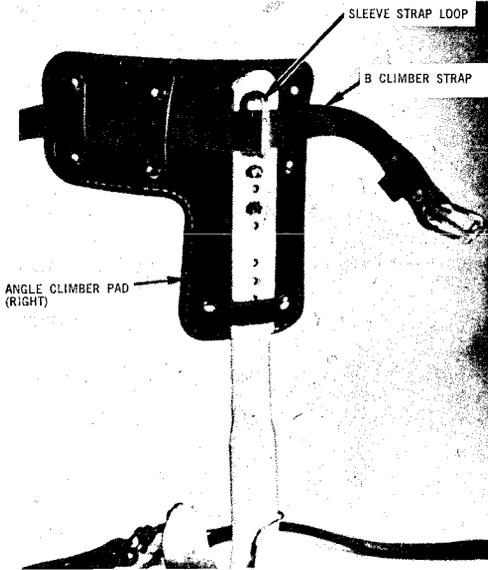
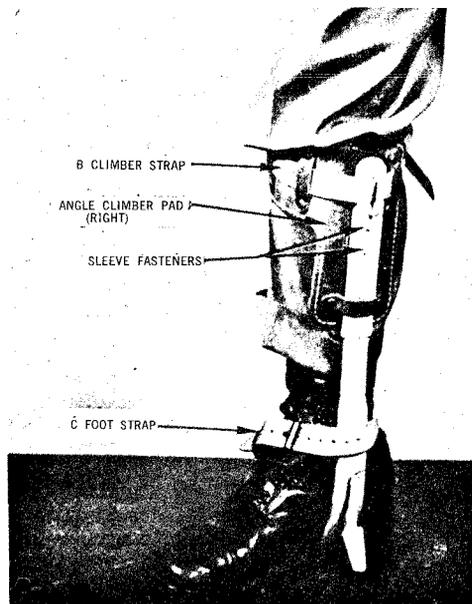

Fig. 6 — Angle Climber Pad (Right) Installed
Fig. 9 — Right Climber on Leg
2.06 The 22-inch B Climber Strap, Fig. 6, is used to hold the pad on the leg iron and to fasten both to a craftsman's leg when the climber is worn.
Next, place a B Climber Strap and pad on sleeve as shown in Fig. 6. Place the strap so the tongue will point toward back of leg when buckled. Place sleeve on climber, step on stirrup and adjust sleeve to position that is most comfortable. Place one of the set screws to hold the sleeve in place and put climber on to see if it feels comfortable; if so remove climber and add second set screw to hold sleeve in place (see Para. 2.03). The same procedure can be used for the other climber. Climbers should be adjusted to the maximum length which is comfortable. Fig. 9 illustrates assembled climber strapped to leg.